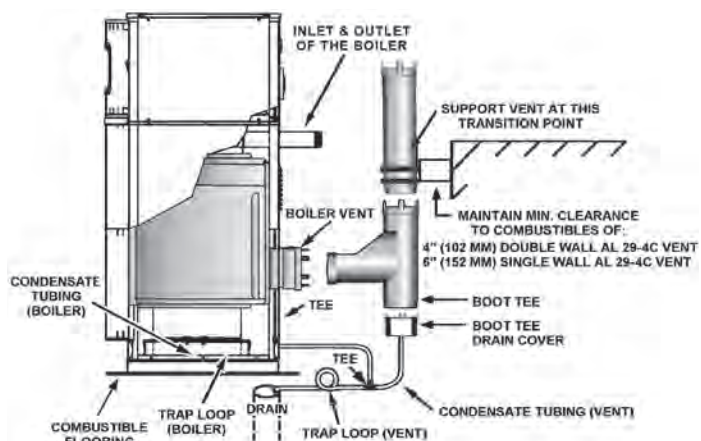
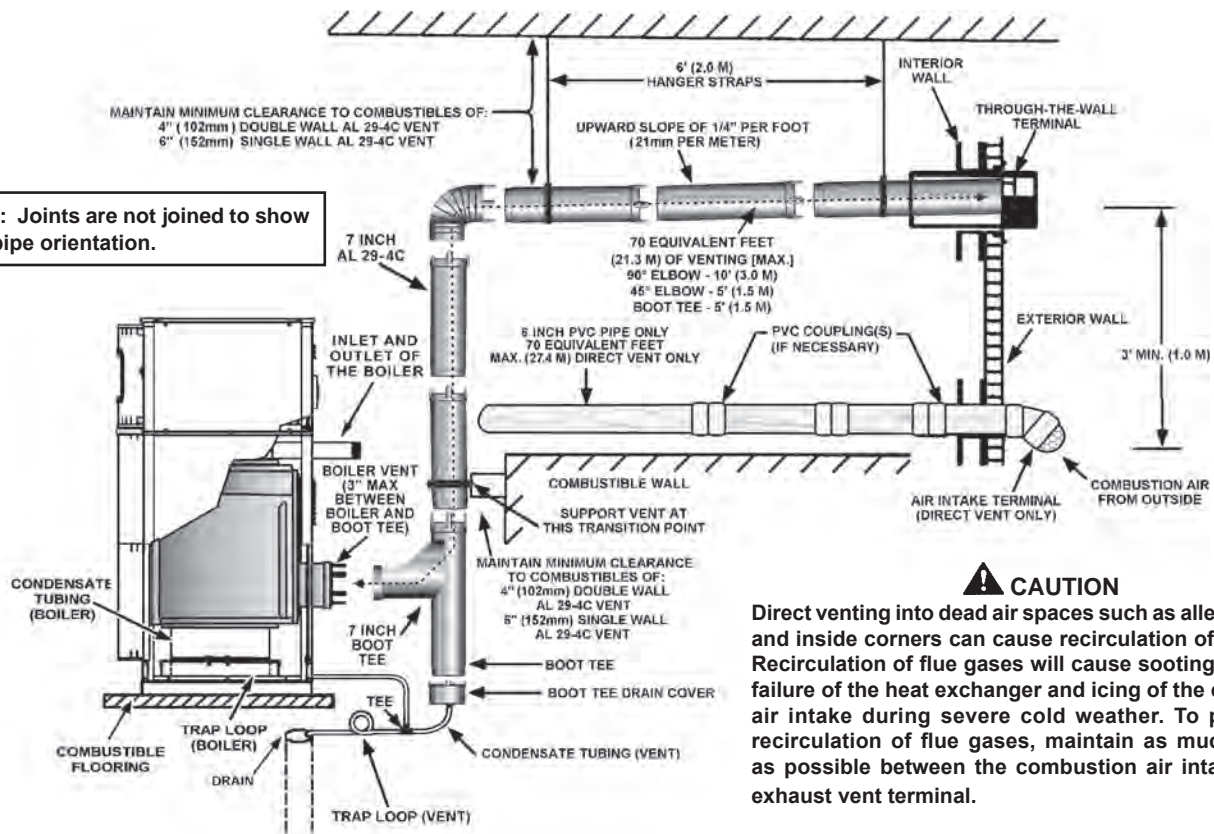

FIGURE 10.
FIGURE 12. PVC PIPE VENT HORIZONTAL.
3. **Horizontal Direct Vent** - using TWT to exhaust flue products and PVC piping to bring combustion air to the boiler from the outside, see Figures 12 and 12C.
At the outlet of the boiler vent, see Figure 10, the AL 29-4C® Vent Boot-Tee and Boot-Tee Drain Cover must be used as the transition from the horizontal to vertical run. This is where the bottom most support bracket should be located.
1. Attach the Boot Tee Drain Cover to the appropriate leg of the Boot-Tee, see Figure 10.
2. A trap loop must be formed to prevent escape of exhaust gases. The loop is formed simply by looping the tube to a minimum 3 inch (76mm) diameter and secure the loop with a cable tie, see Figure 10.
4. Connect the Boot-Tee and Drain Tee assembly to the boiler vent connector, see Figure 10.
The support brackets (supplied in the Vertical Support Kit) are to be securely fastened to a solid vertical member of the building using the appropriate fasteners; i.e., wood screws for wood framing, machine or tapping screws for structural steel or masonry anchors for solid masonry. The bracket should be located so that it will not interfere with any joints of the venting system. The bottom most support bracket should be located directly above the first transition from horizontal to vertical, see Figure 10. Refer to Figures 12, 12A, 12B and 12C.